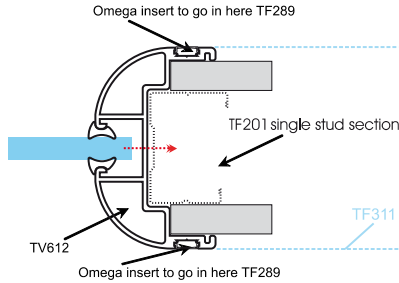

Fig. 15
### Method of build fig.15
- 5 When TV612 is in position cut to length TF289 Omega insert and press into the insert channel as shown in Fig. 15 (An order for TF289 must be placed at the time of ordering the main materials for the partitioning).